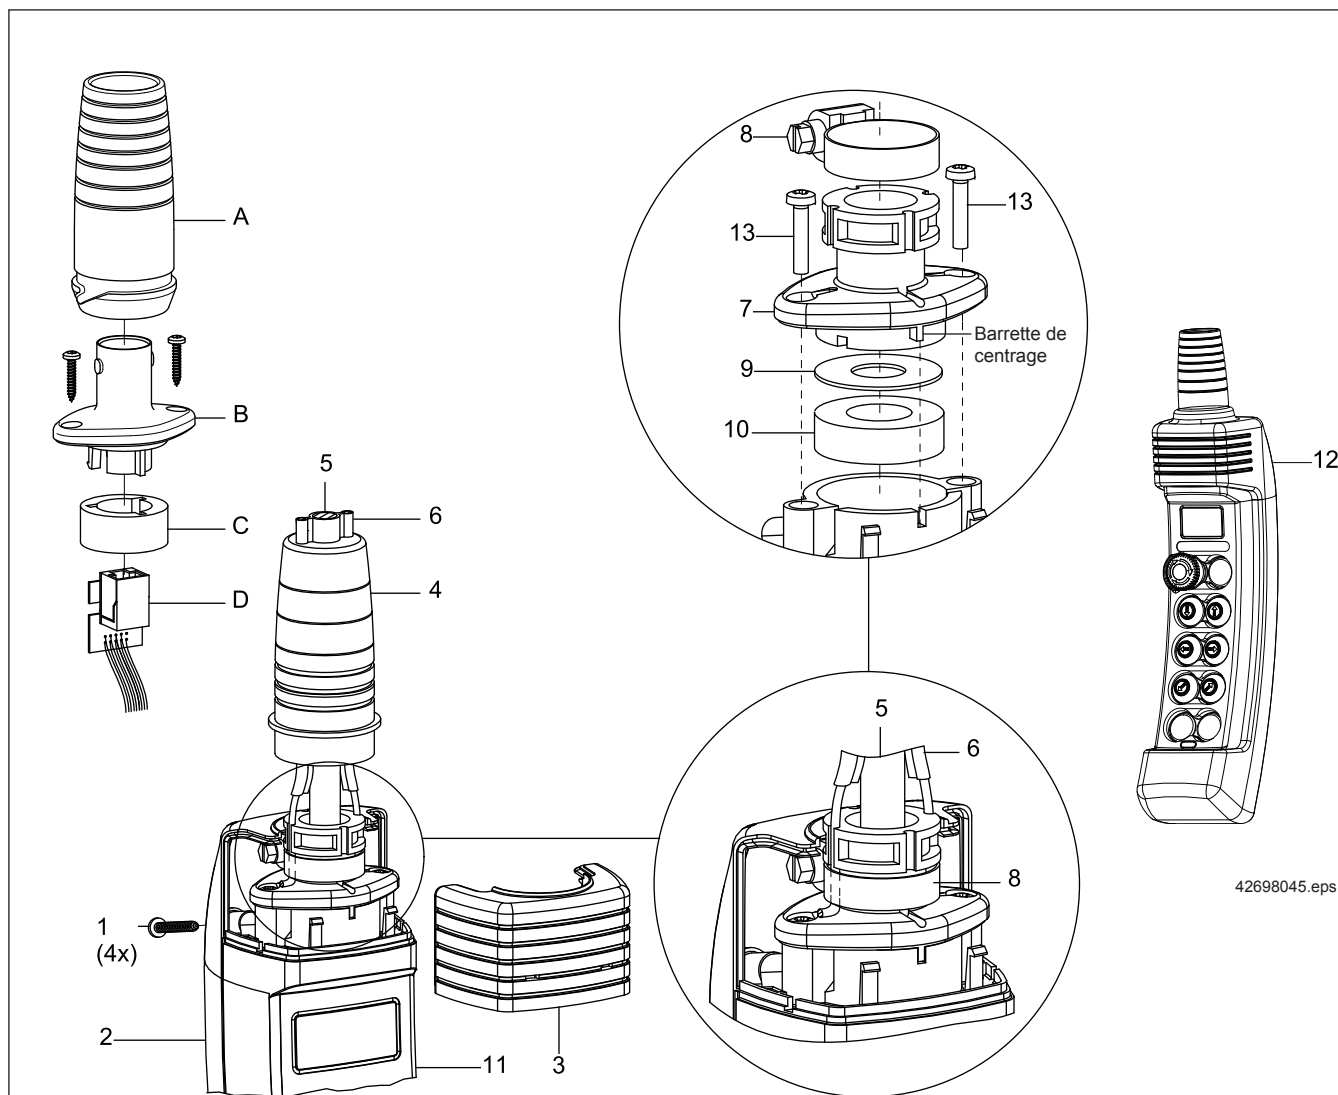

Fig. 1
- Pull conductors into front part (11) of the housing.
- Slide washer (10), sealing ring (9) and pressure sleeve (7) down to the front part (11) of the housing.
- Tighten the two recessed head screws (13).
- Strip insulation of strain relief wire cords (6) (fig. 1).
- Shorten strain relief wire cords (6) (fig. 1) and insert on the side into the groove of pressure sleeve (7).
- Fix strain relief wire cords with tube clip (8) (fig. 1).
- Push protective sleeve (4) onto pressure sleeve (7). The protective sleeve is flush with the pressure sleeve flange.
- Fit housing cap (3).
- Screw rear part (2) of the housing back onto front part (11) of the housing.
- Finally fit bumper (12) (see section 4).